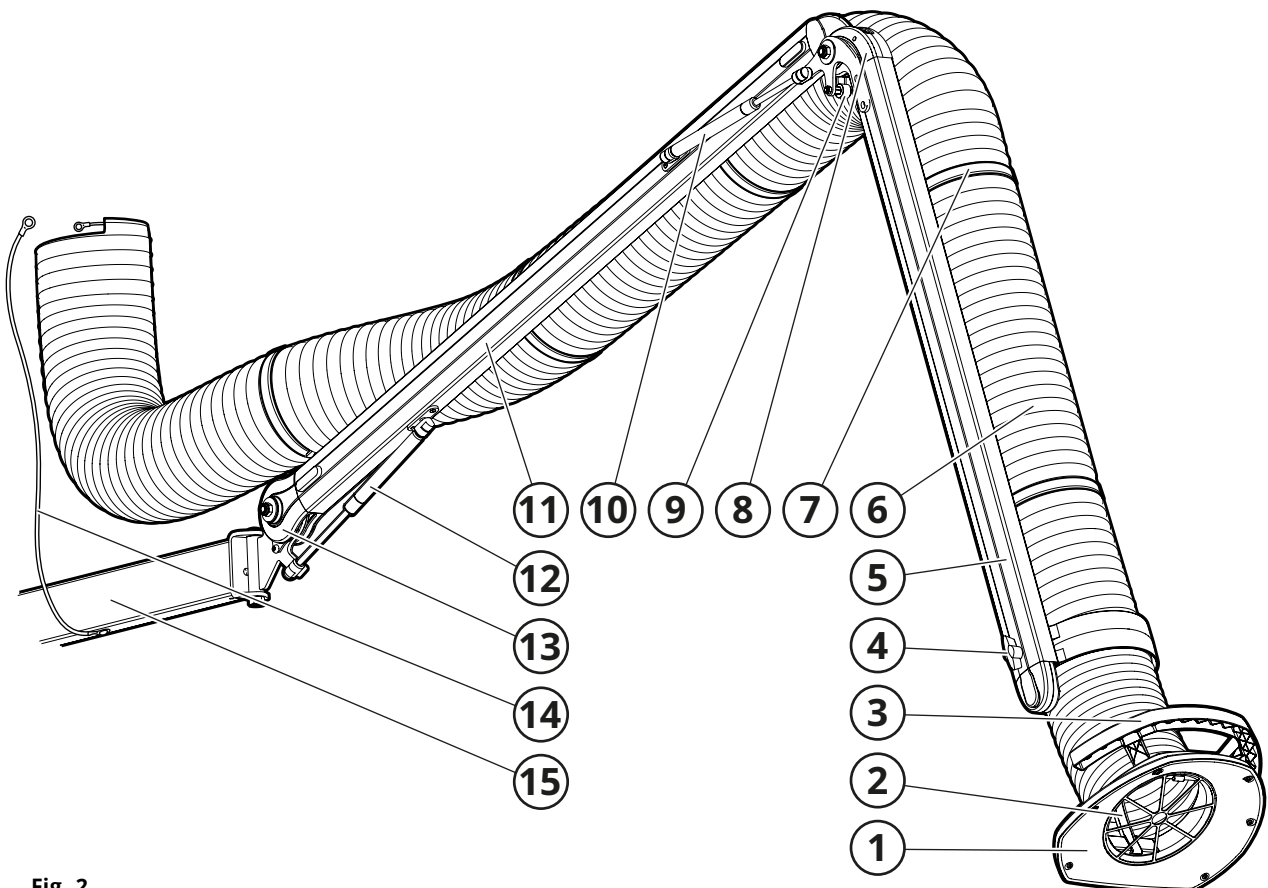

Fig. 2
See Fig. 2.
The extraction arm is mounted on a wall bracket (15, Fig. 2) as standard and has externally attached support arms (5, 11). The joints (8, 13) are fitted with gas springs (10, 12) to balance the weight of the arm. The extraction arm's friction is regulated at each joint. The hood (1) is designed for maximum suction efficiency and is ideal for gas and dust extraction, and is fitted with a handle (3) for maneuvering. A damper (4) at the fitting of the hood regulates the air flow. The hood joint (2) can be bent 180°+180°. The hose (4) is mounted on the arm via the hose fixation (3).